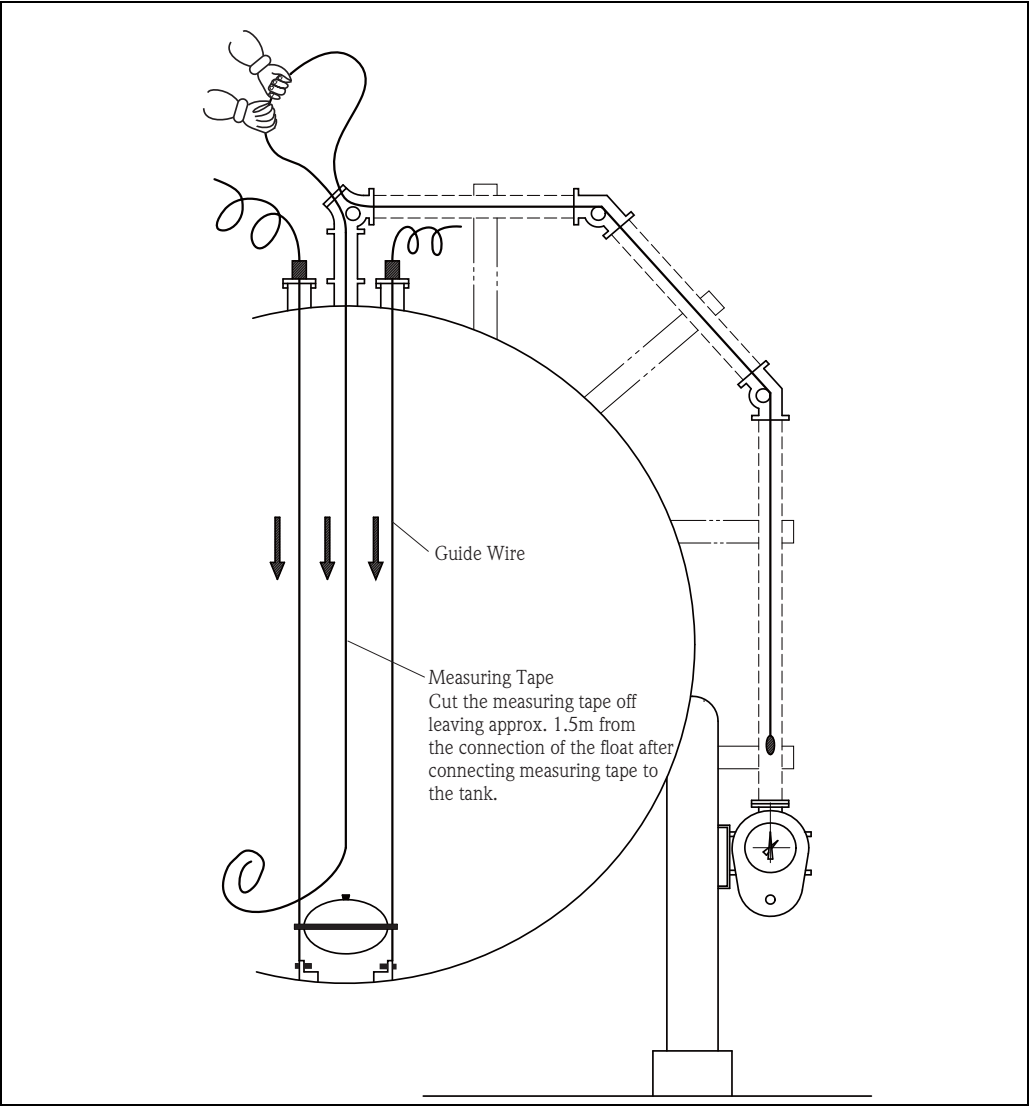

Figure 34: Measuring Tape Installation
3. Insert the non-perforated end of the measuring tape into the tank through the 90° sheave elbow (refer to Figure 34).
4. Insert the perforated and looped end of the measuring tape thorough the 135° sheave elbows to LT (refer to Figure 34).